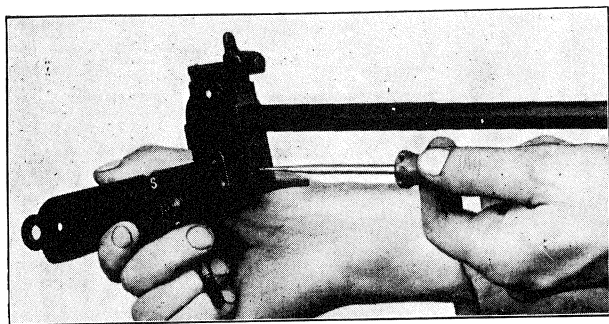

Fig.117
With a screwdriver remove the lock lever fastening screw (fig. 117).
- Screw in the locking lever fastening screw (fig. 117).